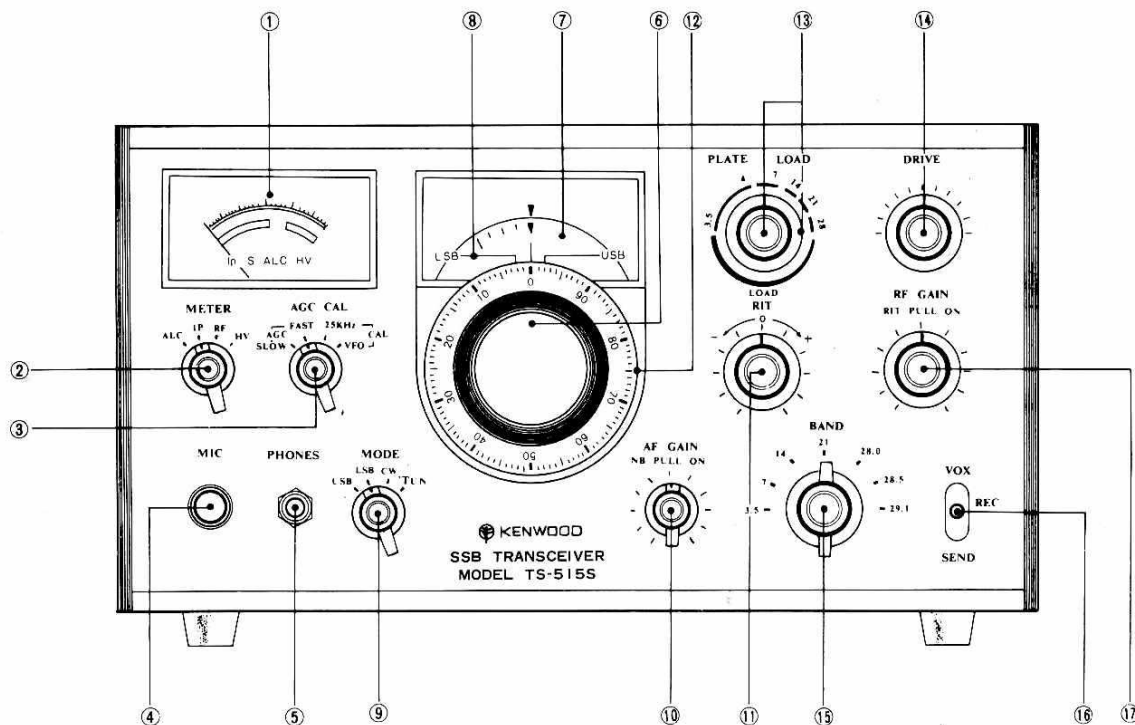

Fig. 5 TS-515S Front Panel Controls
#### Meter (1 on Fig. 5)
#### METER Switch (2 on Fig. 5)
#### AGC/CAL Switch (3 on Fig. 5)
#### MIC Microphone Connector (4 on Fig. 5)
#### PHONES Headphone Jack (5 on Fig. 5)
#### Main Tuning Knob (6 on Fig. 5)
#### Vernier Scale (7 on Fig. 5)
#### Dial Reference Lines (8 on Fig. 5)
#### MODE Switch (9 on Fig. 5)
#### AF GAIN, NB PULL ON, POWER OFF Switch (10 on Fig. 5)
**RIT Receiver Incremental Tuning Control** (11 on Fig. 5)
**Main Dial Skirt** (12 on Fig. 5)
**PLATE/LOAD Plate Tuning/Load Adjustment** (13 on Fig. 5)
**DRIVE Driver Tuning Control** (14 on Fig. 5)
**BAND Switch** (15 on Fig. 5)
**VOX/REC/SEND Stand-By Switch** (16 on Fig. 5)
**RF GAIN/RIT PULL ON** (17 on Fig. 5)